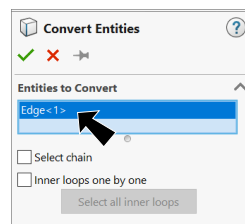
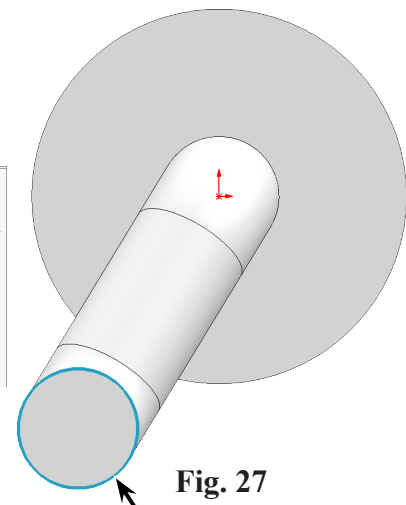

Fig. 26
Fig. 27
Step 5. In the Convert Entities Property Manager: under Entities to Convert, **Fig. 26** click **front edge of Sweep**, **Fig. 27** click **OK** .